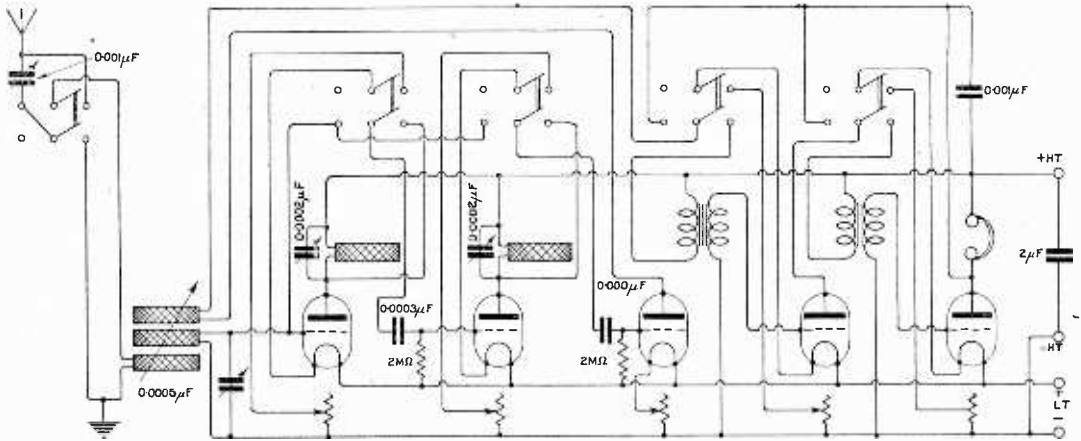

Fig. 7.
(1) A suitable diagram is given in Fig. 7. The tuned anode method of H.F. amplification is used. You will notice the grid-leak connections are made with + L.T. (2) 0.0003 mfd. condensers may consist of two plates with an overlap of 3 cm × 1 cm., the mica being 2 mils. thick. The 0.001 mfd. condenser may consist of six plates with an overlap of 2 cm. × 1 cm.; mica 2 mils. thick. (3) Suitable values for the variable condensers are indicated in the diagram.